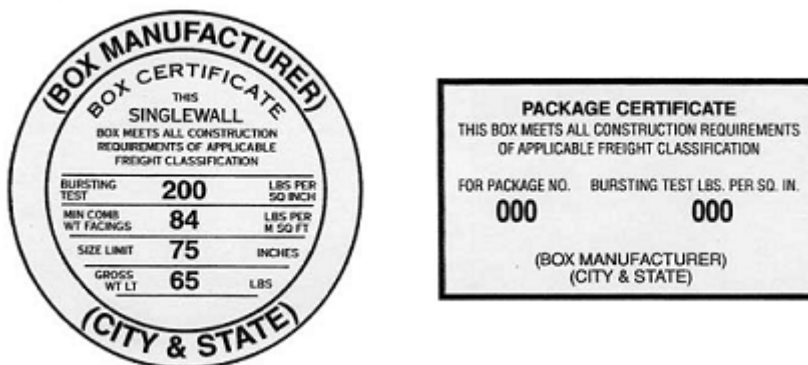

Figure 5. Example of BMC shown in 2 different formats
1. Using Figures 5 and 6, determine the **Length** (L) x **Width** (W) x **Height** (H) dimensions of your container. The opening of the container is generally defined by the Length and Width dimensions. The container opening (**Length** x **Width**) is also usually the top of the container.